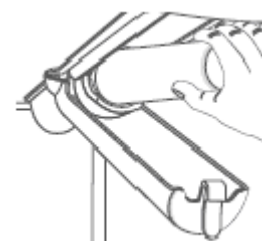

Figure 2
- (c) Remove the sealing label from the end of the filter and insert the filter into the filter head (refer to figure 2).